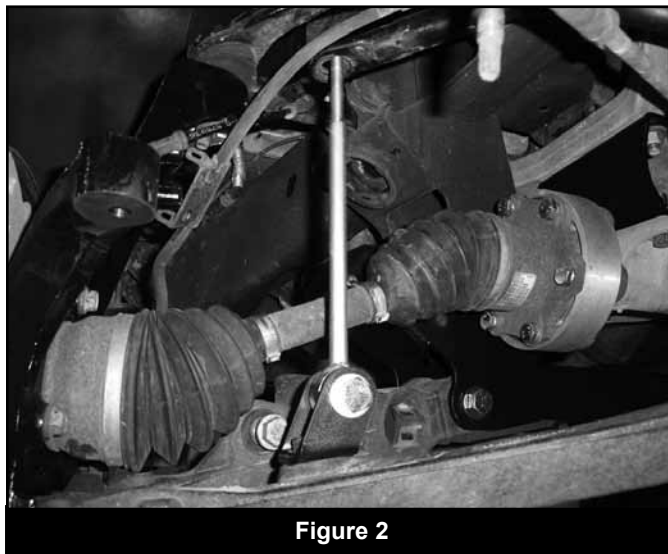

Figure 2
2. Locate the new front sway bar links (911109), small hourglass bushings (SB35BK) and 0.750" OD x 1.575" long sleeves (54587). Install the bushings and sleeves into the eyes of the links. Install the links into the new brackets on the lower control arms with 9/16" x 2-3/4" bolts, nuts and washers (BP 569). Run the bolts from front to rear and leave hardware loose (Fig 2).